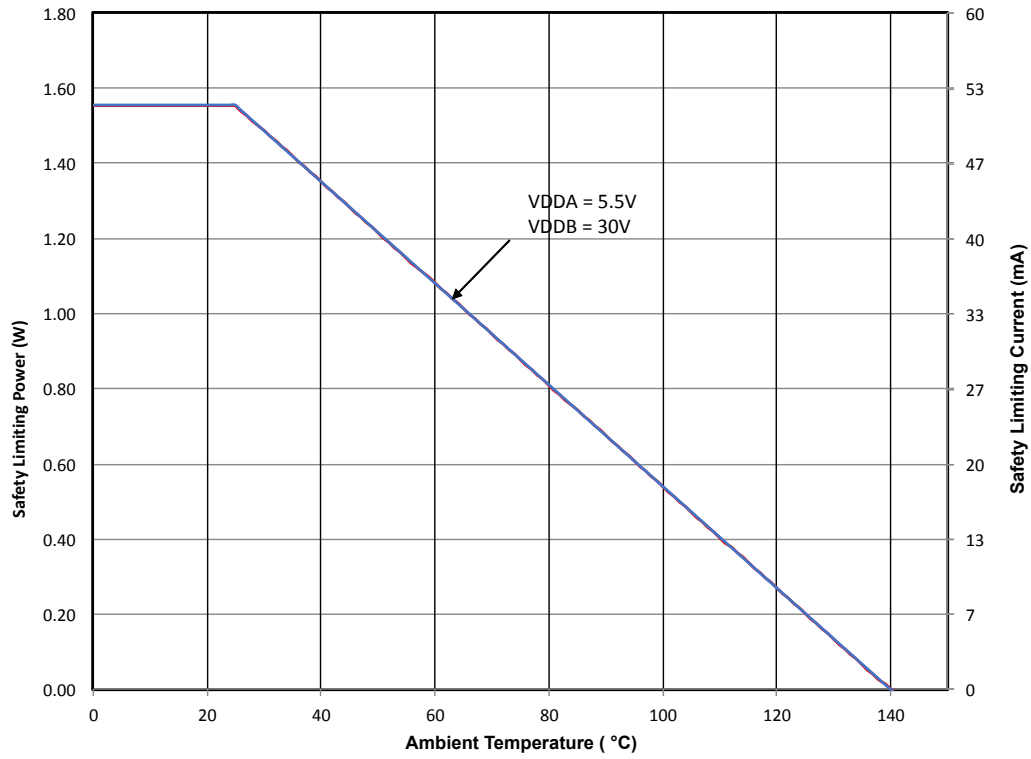

Figure 4.8. WB SOIC-20/24 Thermal Derating Curve
- See Figure 4.8 WB SOIC-20/24 Thermal Derating Curve on page 32 for Thermal Derating Curve.